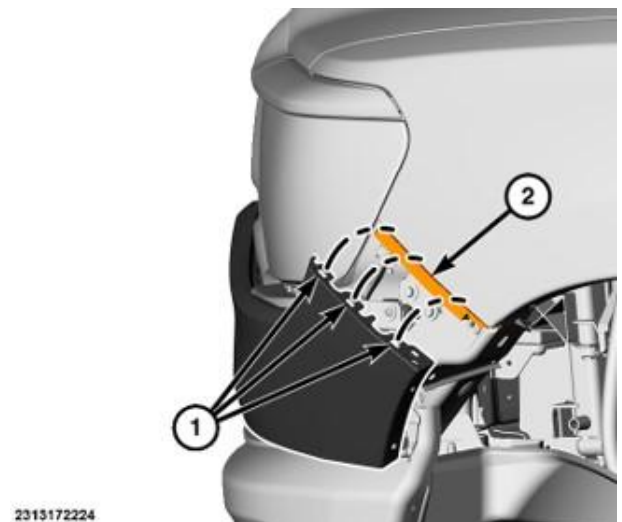

Figure C8 – Fascia Filler Panel
12. Using a trim stick or other suitable tool such as picks, gently release the tabs from the support clip and separate the filler panel from the fender (Figure C8).